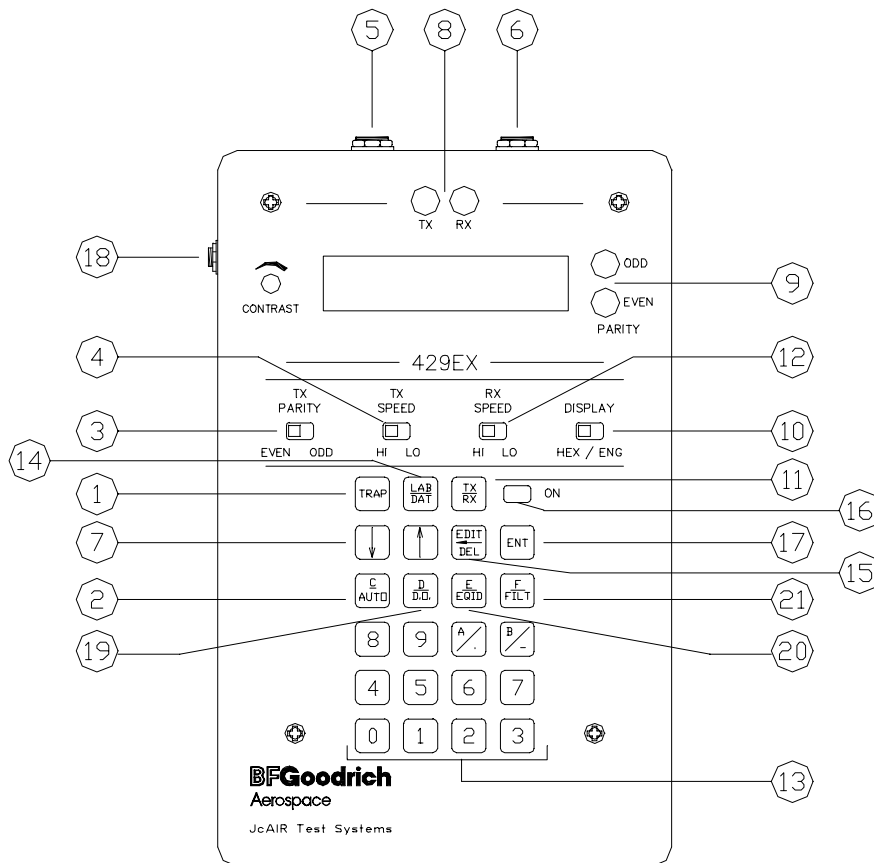

FIG. 3-1: CONTROLS AND INDICATORS
3.2.1 429EX CONTROLS AND INDICATORS (Figure 3-1)